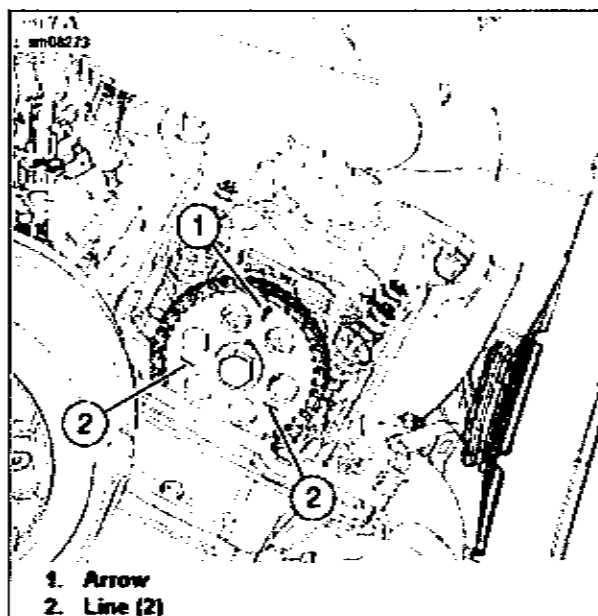

Figure 2-30. Cam Timing Marks
- b. See Figure 2-30. Rotate rear wheel toward front of motorcycle until cam sprocket timing arrow (1) is perpendicular and the timing lines (2) are parallel to the cylinder head.